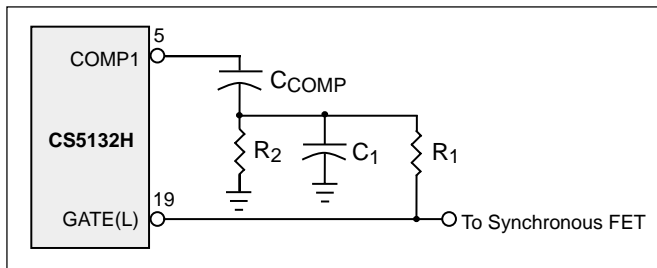

Figure 6: Small RC filter provides the proper voltage ramp at the beginning of each on-time cycle.
The circuit that implements this function for the synchronous regulator section ($V_{CC(CORE)}$) is shown in Figure 6.
The ramp waveform is generated through a small RC filter that provides the proper voltage ramp at the beginning of each on-time cycle. The resistors R_1 and R_2 in the circuit of Figure 6 form a voltage divider from the GATE(L) output, superimposing a small artificial ramp on the output of the error amplifier.